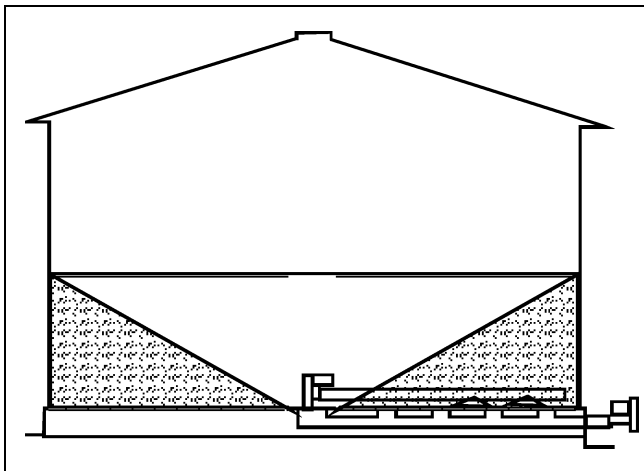

Figure 5D
5. When the grain flow stops from the centerwell, close the centerwell gate. Insert the inside intermediate well bolt and nut through the inside intermediate well control rod and the centerwell control rod. The remaining grain should look like Figure 5D.